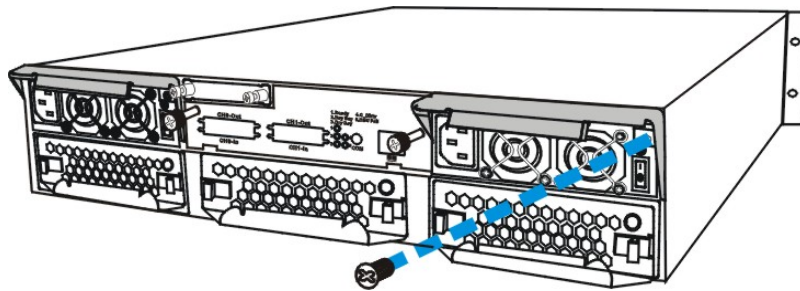

Figure 5- 7: Removing the PSU Retention Screw
Step 3. **Remove the retention screw:** After the power cable has been removed from the power connector, remove the retention screw at the upper right side of the PSU rear-end panel. (See *Figure 5- 7*) The screw is located below the extraction lever, beside the LED indicator, and can be hidden from sight.
Step 4. **Pull the extraction handle downward:** Push the extraction lever at the back of the PSU module downwards. This will dislodge the PSU module from the subsystem. Once dislodged, gently pull the PSU module out of the subsystem. (See *Figure 5- 8*).